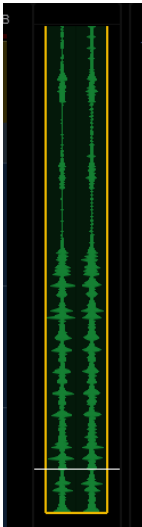

Figure 17. Indication of a clip targeted for editing
Clips are targeted for editing when they reach the playhead on the Display Modules when in any Waveform view as shown in Figure 17. Resolution of edits and moves using the **Sel** and **In** switches is determined by the Pro Tools Nudge value, which can also be adjusted directly from S4/S6. Edits made by rotating S6 knobs use the current Knob Preference settings (see Knob Speed and Sensitivity).
- Cue the session so that a clip is in contact with the Display Module playhead. On the Display Module, a yellow border or bracket appears around any clip that is in contact with the playhead on a strip in Edit mode (see Figure 17).